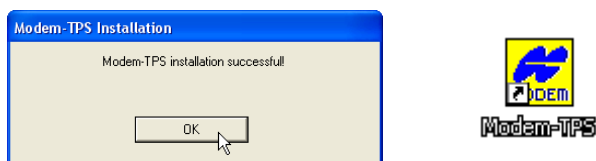

Figure 2-3. Installation Complete and Shortcut
- Click **OK** to complete the installation (Figure 2-3).
- If desired, create a shortcut on the computer's desktop for quick access to Modem-TPS (Figure 2-3).